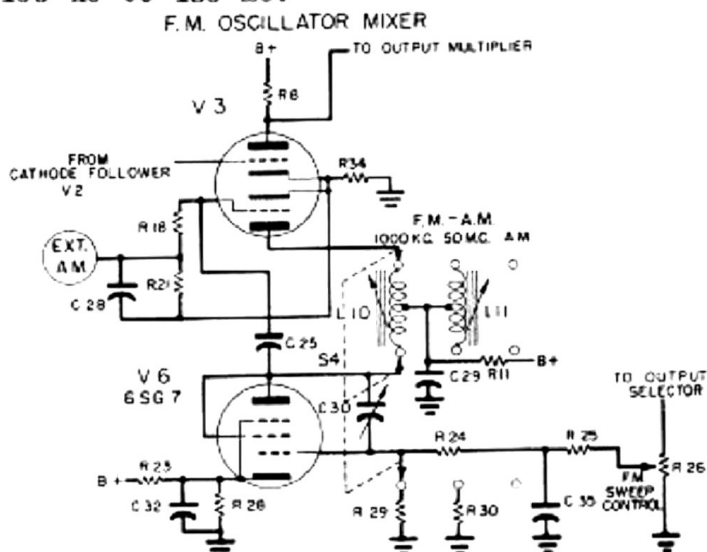

Figure 2.6 FM Oscillator - Mixer
b. As shown in Figure 2.6, one half of the type 6SN7 tube, V3, is used as a triode r-f oscillator to operate at either 1 mc, when utilizing inductance L10, or at 50 mc, when utilizing inductance L11. Either of these signals may be frequency modulated by means of the type 6SG7 reactance tube, V6. The 6SG7 circuit is the electronic equivalent of the mechanically operated variable capa-